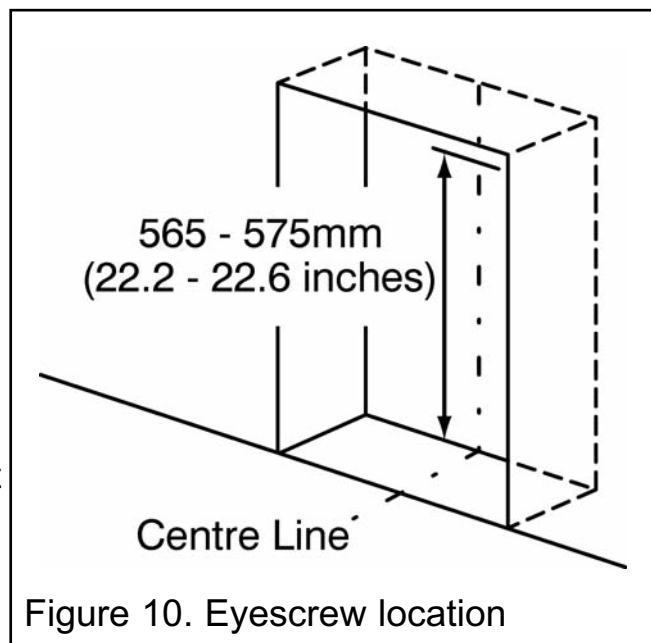

Figure 10. Eyescrew location
2. Mark the eyescrew position on the centre line at the back of the fireplace opening and at a height of 565-575mm (See figure 10).